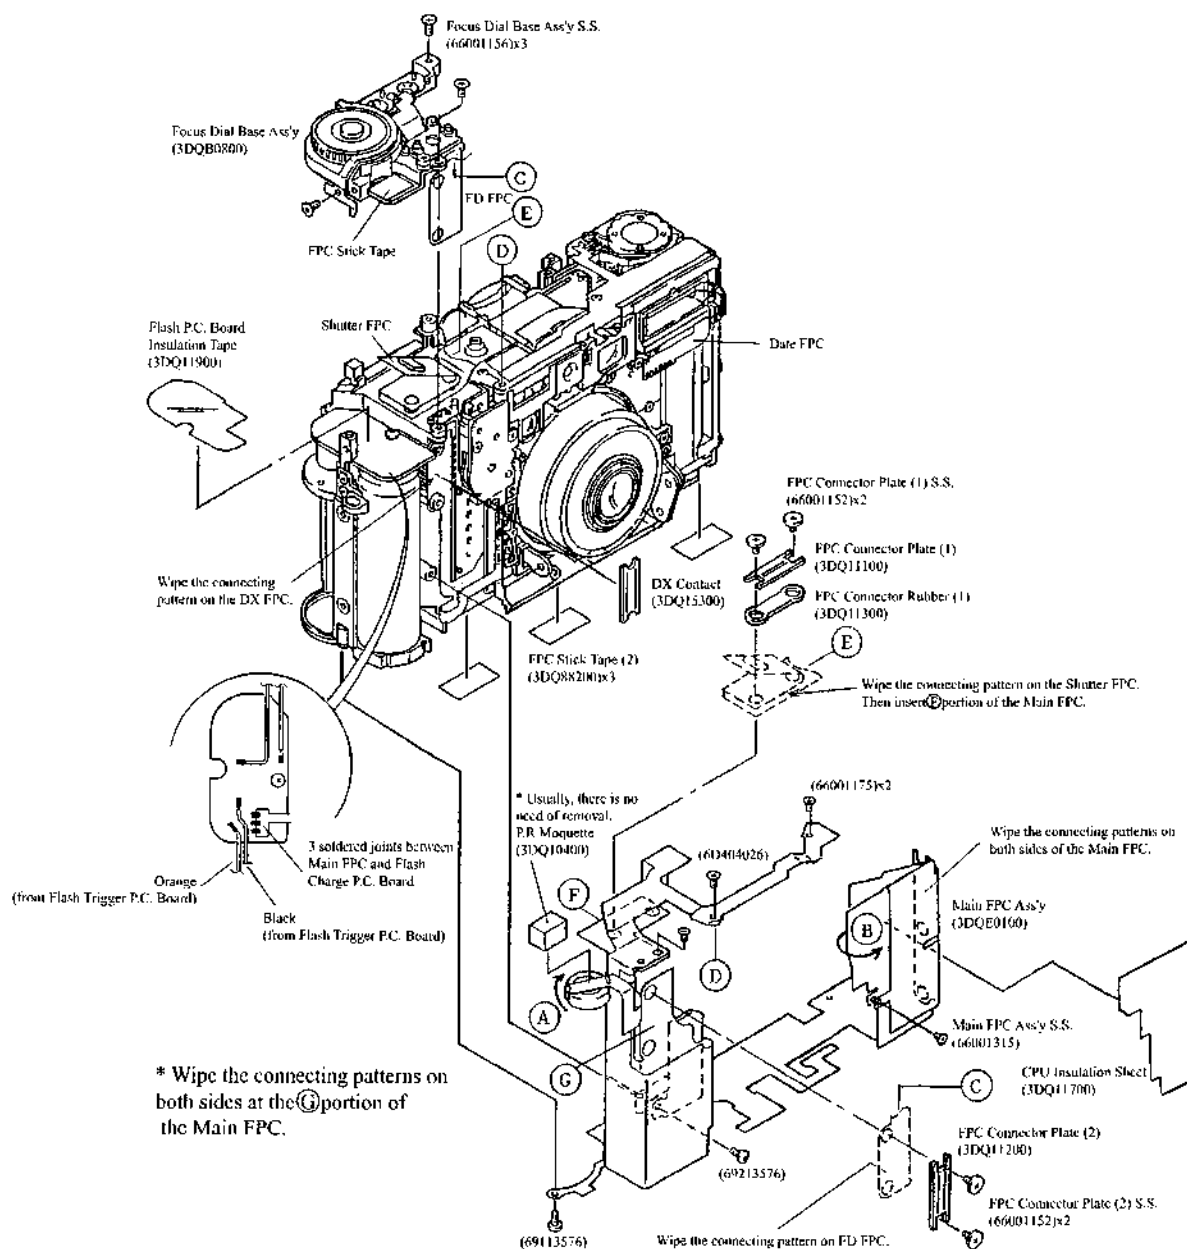

Fig.6
(See **Fig. 6**)
(See **Figs. 6 and 7**) (Top of Body)
- b) Wipe the connecting pattern on each FPC with lens cleaning paper with ether alcohol. (See **Fig. 6**)
- d) When installing the FPC Connector Plate (1) (3DQ11100) and FPC Connector Plate (2) (3DQ11200), position the convex side of their connector on the FPC side.
(See Fig. 6)